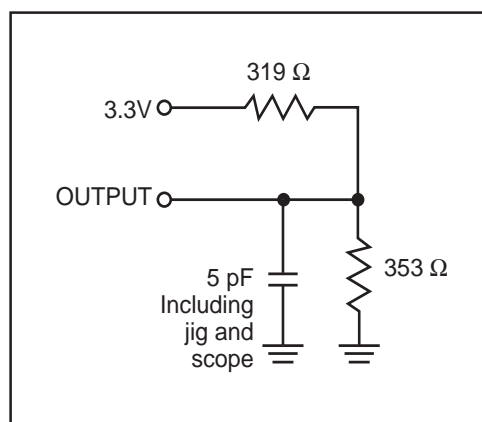

Figure 2
2. Tested with the load in Figure 2. Transition is measured ±200 mV from steady-state voltage. Not 100% tested.
3. Tested with the load in Figure 2. Transition is measured  $\pm 500$  mV from steady-state voltage. Not 100% tested.